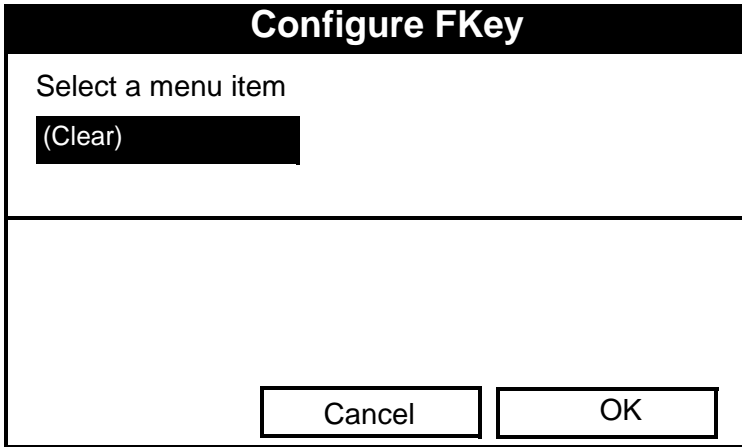

Figure 62: Configure FKey Window
- Use the [▼] or [▲] arrow keys to move to the desired FKey (1, 2 or 3) entry on the menu. Press [ENTER]. The Configure FKey window opens, as shown in Figure 62 on page 100.